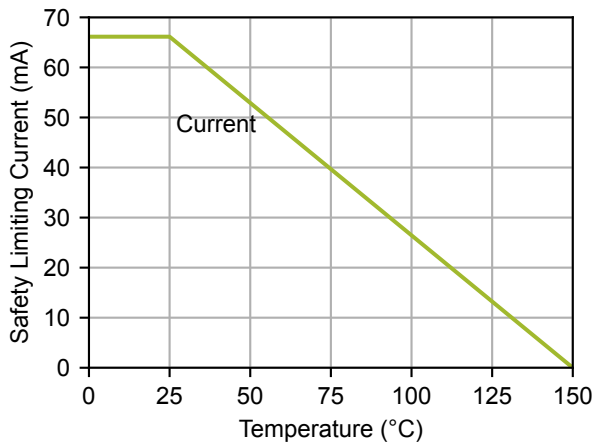

Figure 4.2. NB SOIC-16 Thermal Derating Curve, Dependence of Safety Limiting Values
1. Maximum value allowed in the event of a failure. Refer to the thermal derating curve in Figure 4.2 NB SOIC-16 Thermal Derating Curve, Dependence of Safety Limiting Values on page 24.